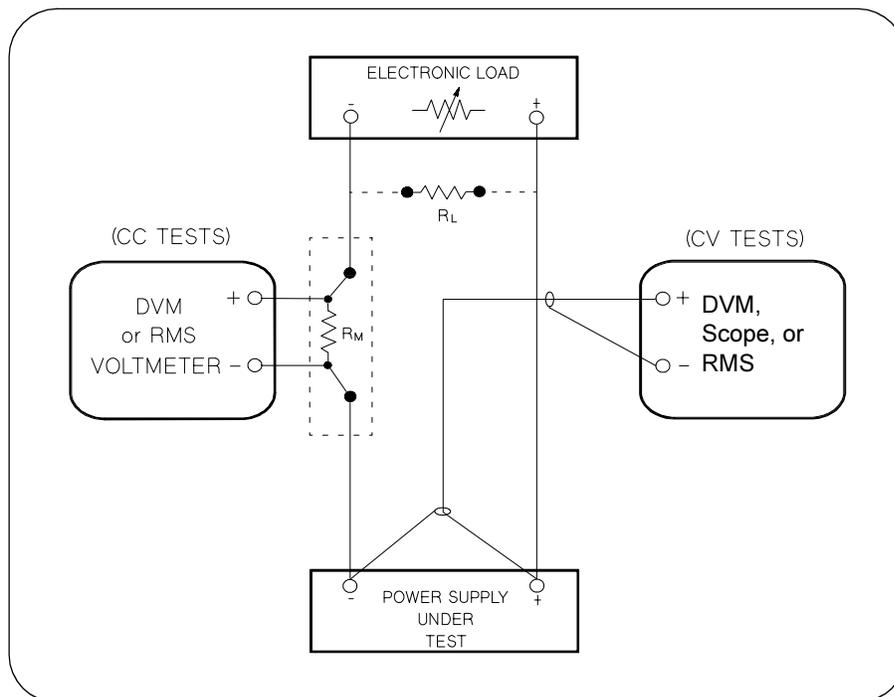

Figure A-1 Performance Verification Test Setup
Most tests are performed at the front terminals as shown in Figure A-1. Measure the dc voltage directly at the (+) and (-) terminals on the front panel.
To eliminate output current measurement error caused by the voltage drops in the leads and connections, connect the current monitoring resistor between the (-) output terminal and the load as a four-terminal device. Connect the current-monitoring leads inside the load-lead connections directly at the monitoring points on the resistor element (see R_M in Figure A-1).
- 1 Turn off the power supply and connect a digital voltmeter between the (+) and (-) terminals of the output to be tested as shown in Figure A-1.
- 1 Turn off the power supply and connect a digital voltmeter between the (+) and (-) terminals of the output as shown in Figure A-1.
- 4 Operate the electronic load in open mode (input off). Record the output voltage reading on the digital voltmeter again. The difference between the digital voltmeter readings in steps (3) and (4) is the CV load regulation. The difference of the readings should be within the limit of (5 mV)* or (9 mV)**.
- 6 Adjust the transformer to high line voltage (127 Vac for nominal 115 Vac, 110 Vac for nominal 100 Vac, or 253 Vac for nominal 230 Vac). Record the voltage reading on the digital voltmeter. The difference between the digital voltmeter readings in steps (5) and (6) is the CV line regulation. The difference of the readings should be within the limit of (5 mV)* or (9 mV)**.
- 1 Turn off the power supply and connect the output to be tested as shown in Figure A-1 to an oscilloscope (ac coupled) between (+) and (-) terminals. Set the oscilloscope to AC mode and bandwidth limit to 20 MHz. Connect a resistive load (13.5Ω)[‡] to the terminal at (B) as shown above.
- 1 Turn off the power supply and connect the output to be tested as shown in Figure A-1 with an oscilloscope. Operate the electronic load in constant current mode.
- 1 Turn off the power supply and connect a 0.01 Ω current monitoring resistor (R_{M1}) across the output to be tested and a digital voltmeter across the current monitoring resistor (R_{M1}) as shown in Figure A-1.